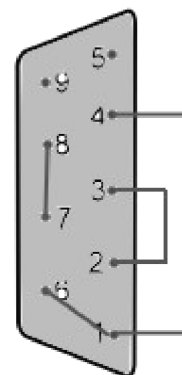

Figure 4: Loopback connector
4. Testing – It is usually difficult to work on both PCs when a programmer wishes to check his/her source code for PC-to-PC communication. The best possible way to overcome this problem is to use a loopback connector (shown in **Figure 4**), which enables the programmer to write source-code for programming serial port with single PC.